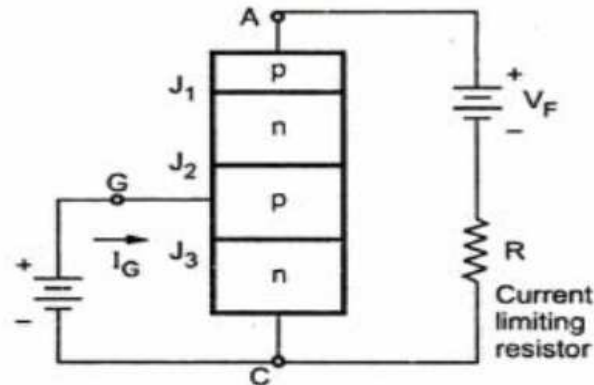

Fig. 5.27 Operation of SCR when Gate is closed
- Due to regenerative action, within short time, the junction J_2 breaks and SCR conducts heavily. The connections are shown in the Fig. 5.27.